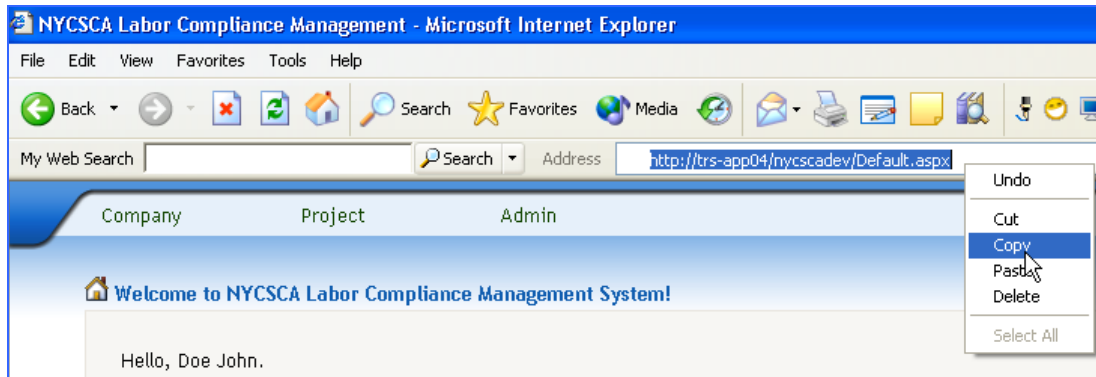

Figure 118 - Copy URL
- URL of the screen with the error. You can either type the full website address or you can just copy this from your browser by right-clicking on the website address and selecting copy (Figure 118). In the body of the e-mail, right-click and select paste to paste the URL into the e-mail.